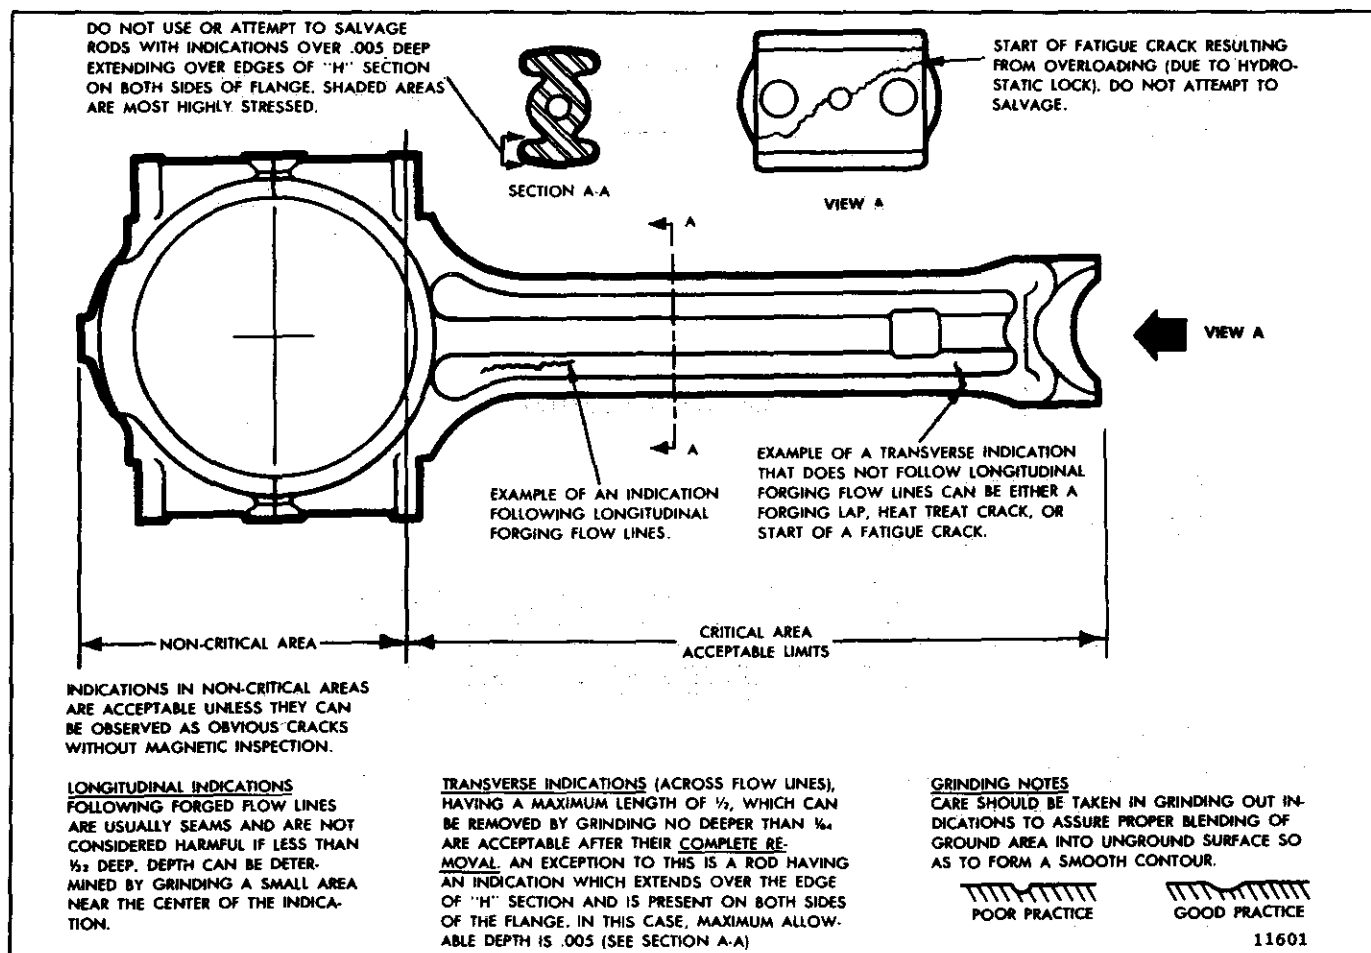

Fig. 11 - Magnetic Particle Inspection Limits for Connecting Rod
1. Check for cracks (Fig. 11) by the magnetic particle method outlined in Section 1.3 under *Crankshaft Inspection*.